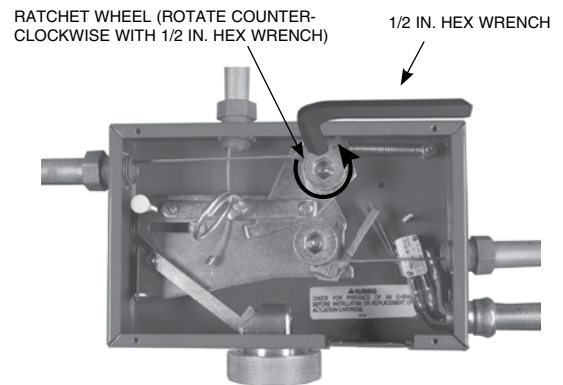

FIGURE 11
- c. While holding the pawl lock lever in place, using the 1/2 in. hex wrench, turn the ratchet wheel counter-clockwise to unspool all cable. See Figure 11.